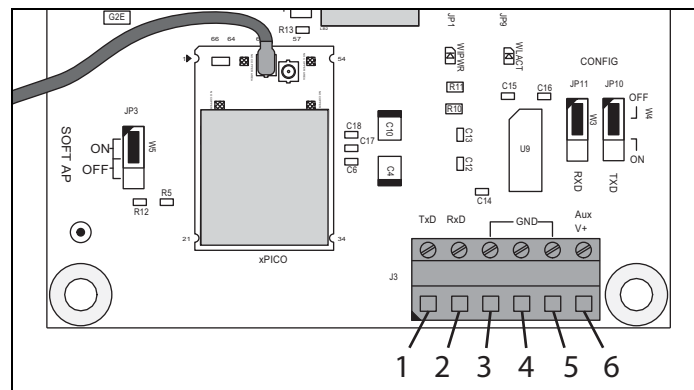

Figure 5. Serial Port Location
3. Route cable to the J3 connector. See Figure 5 and Table 3 for wiring.